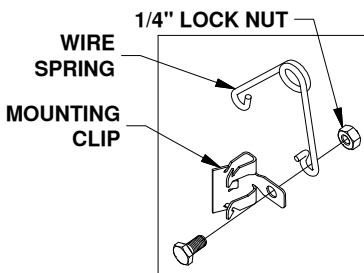
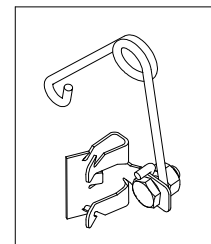

Figure D1: Leveling kit parts.
Figure D2: Assembled leveling kit.
- Assemble kit.** Locate the 1/4" cap screw and nut, along with the wire torsion spring and mounting clip. Pass the 1/4" cap screw through the mounting clip and the wire spring, as shown in Figure D1. Thread the 1/4" lock nut onto the 1/4" cap screw. Tighten the lock nut just enough that the spring will stay in place but will still be able to rotate around the bolt if needed, see Figure D2.